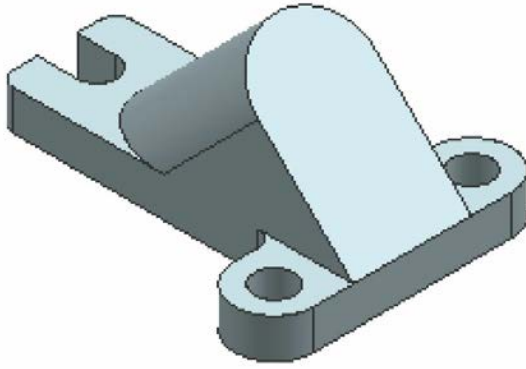

Figure 5-73 Model after creating the second feature on the inclined datum plane
10. Hide the sketch and the datum plane. Figure 5-73 shows the model after creating the second feature.